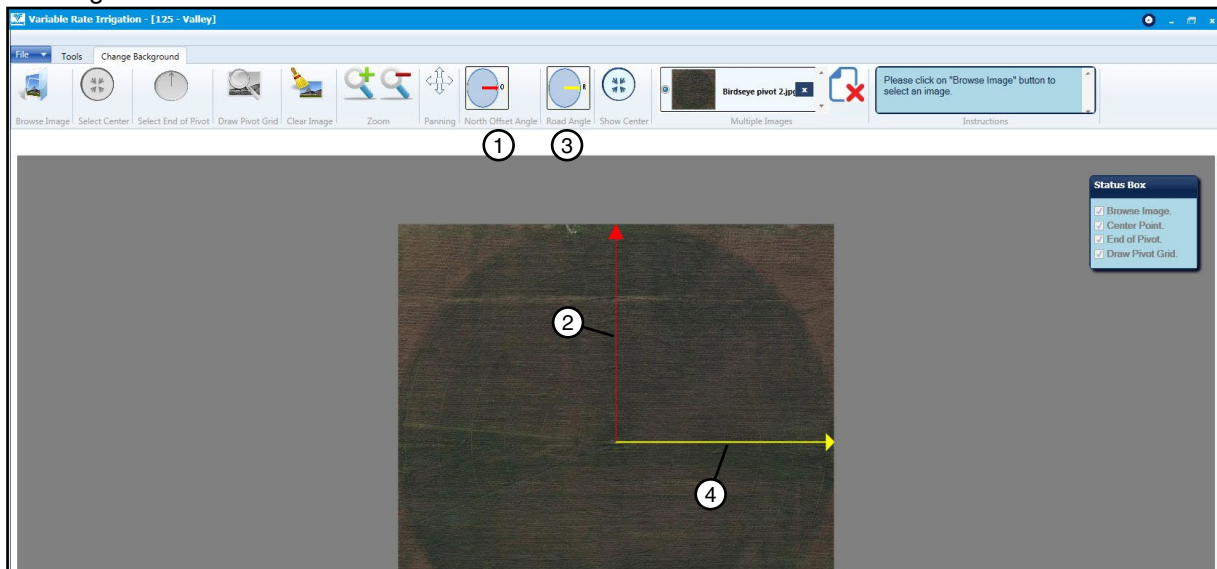

Figure 14-2 1. North Offset Angle Button 2. North Offset Angle at 0° 3. Road Angle Button 4. Road Angle at 90°
6. If you want, you may now click the **North Offset Angle** and **Road Angle** buttons to display these settings. See Figure 14-2.